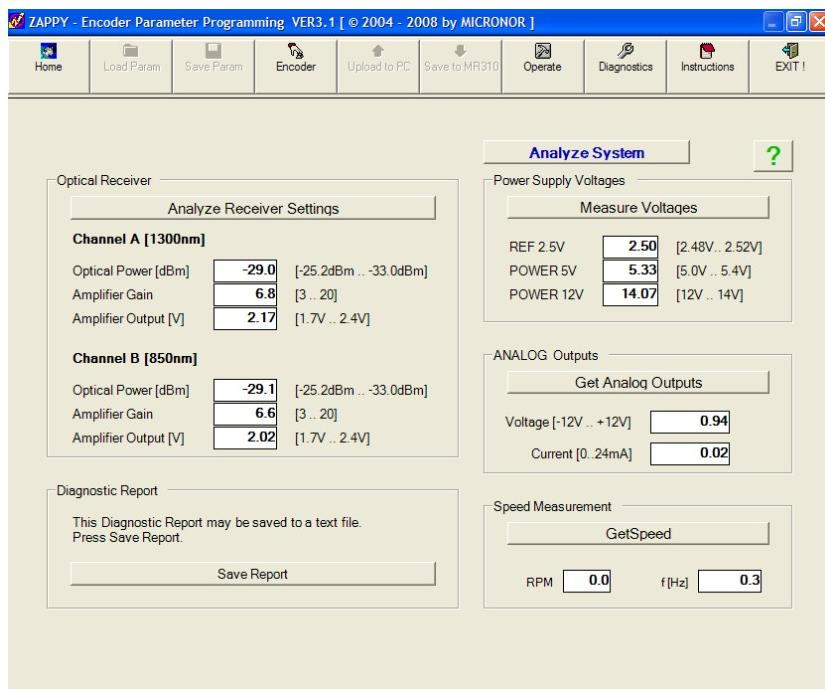

Figure 18. DIAGNOSTICS Screen view via ZAPPY™ Software.
- STEP 3: Select [DIAGNOSTICS] to view various monitoring points within the MR310, as shown in Figure 18. Repeatedly clicking on [DIAGNOSTICS] will update the entire set of readings while the individual diagnostic groups (VOLTAGE TEST, OPTICAL SOURCES, SLIT PERIOD MEASUREMENT, ANALOG OUTPUT and INPUT AMPLIFIER) can also be updated individually. Here is a brief explanation of the relevant diagnostic fields to focus on during initial checkout: